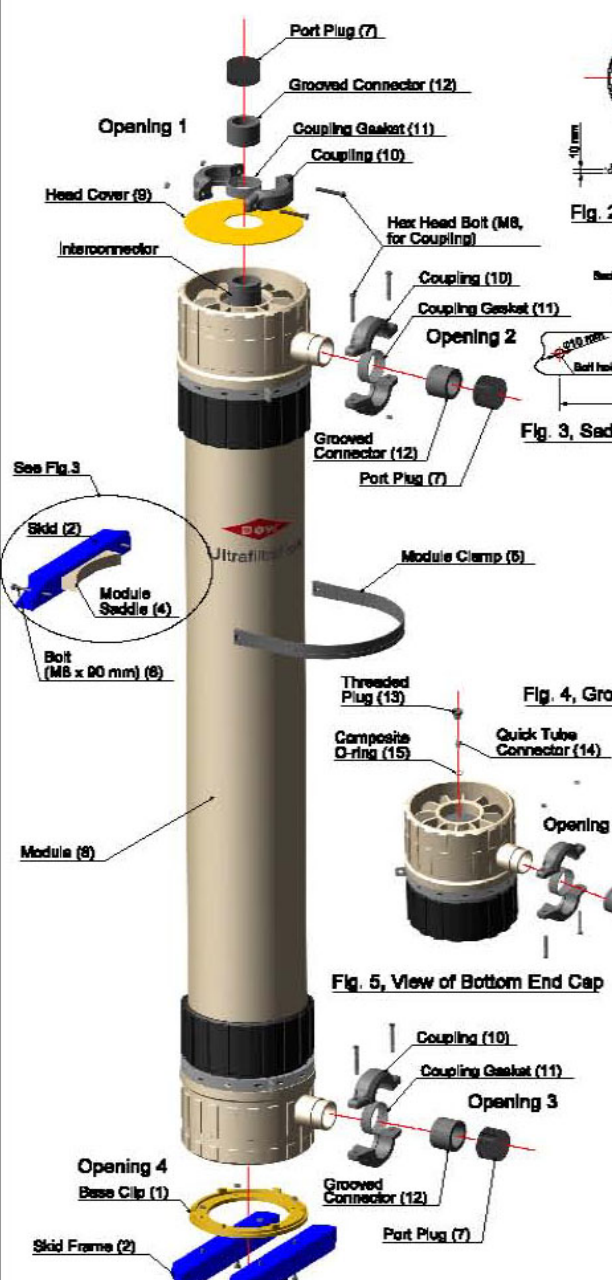

Fig. 2, Base Clip Detail
1. Install Base Clip (1). Drill two 10 mm diameter holes on Skid Frame. Fix Base Clip on Skid Frame (2) (by Customer) with Bolt (3) (M8-size, by Customer). The length of the Bolt used for the Base Clip (1) will depend on the thickness of the Skid Frame. Refer to Figure 2, Base Clip Detail.